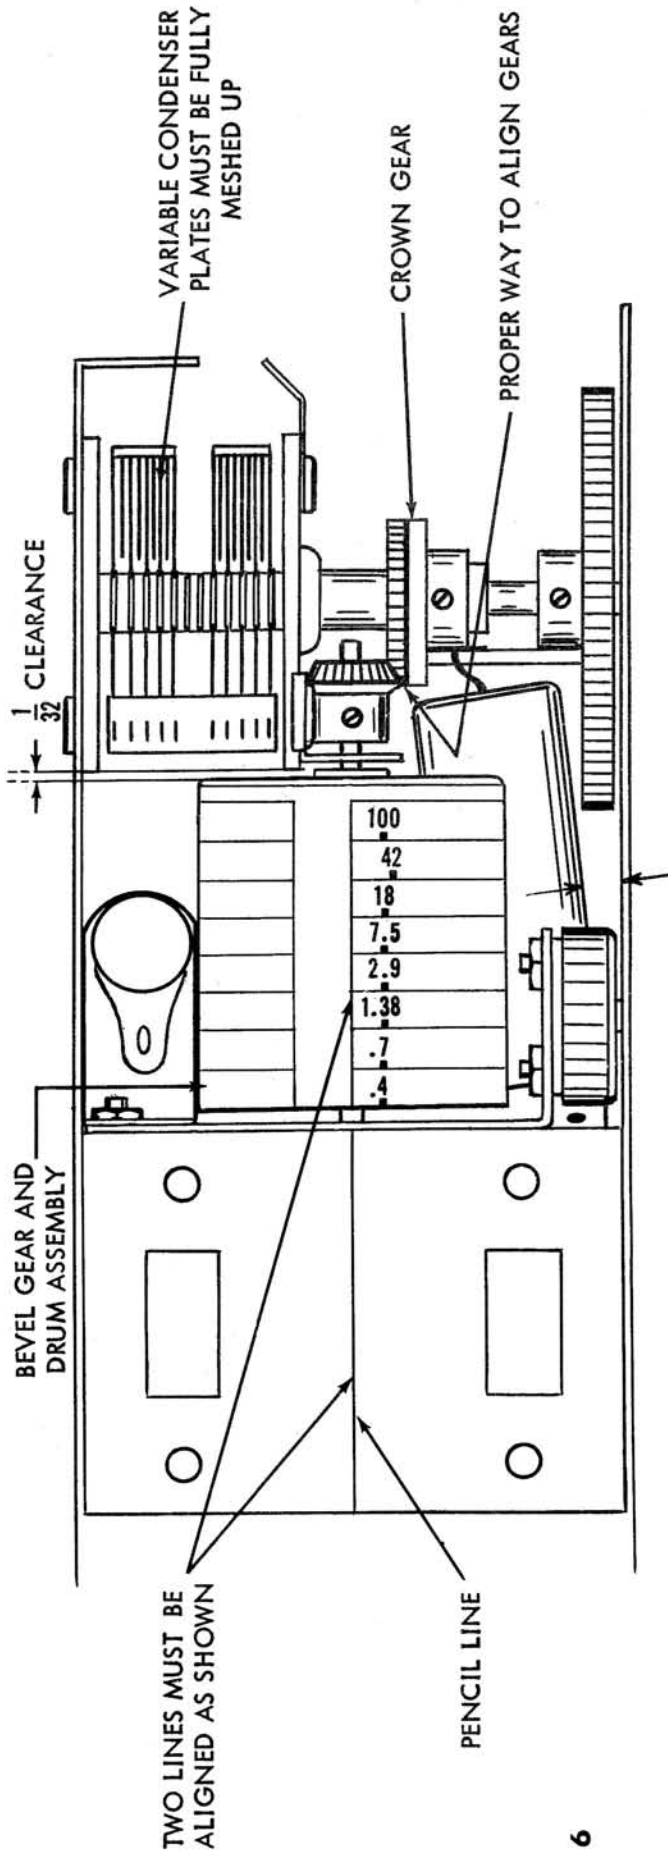
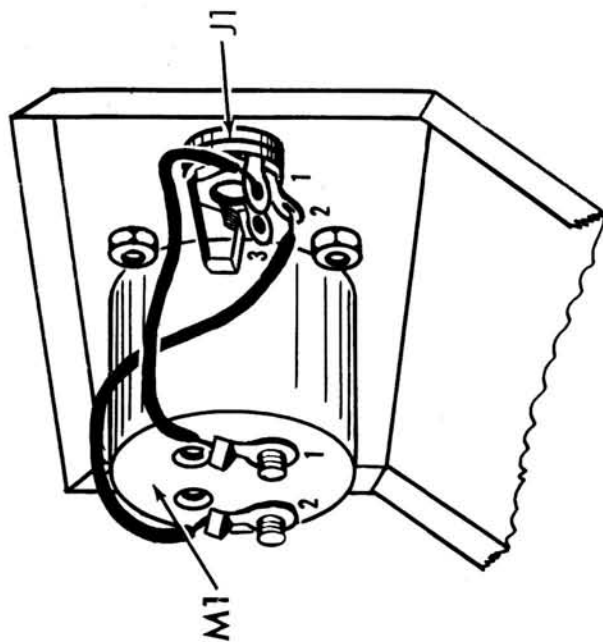

Fig. 6
Fig. 7
- () 1. Fig. 6. $1/8$ " from either edge of the top of the "U" shaped bracket, draw a line perpendicular to the variable capacitor. This is at the center of the bracket.
- () 2. Fig. 6. Loosen completely the two screws holding the "U" bracket to the main chassis. The nuts should be held onto the screw with several threads.
- () 3. Fig. 6. Push a spring over the thinner portion of the center axle inside the drum assembly. Do not force the spring over the thicker portion of the axle.
- () 4. Fig. 6. With the left hand, push the "U" shaped bracket toward the 4 post terminal strip TB1, mounted on the main chassis. With the right hand, push the axle with the spring on the drum assembly, through the hole "R" in the "U" shaped bracket. See fig. 5 for location of the hole. The spring tends to push the drum assembly towards the variable capacitor.
- () 5. Fig. 6. The capacitor plates must be fully meshed (maximum capacity). Push the drum towards the "U" shaped bracket so that the clearance between the frame of the capacitor and the body of the drum is $1/32$ ". See fig. 6. Turn the drum so that the beginning of the scale, nearest the .4 mc marking, coincides with the line drawn in step 1, above.
Slip a crown gear over the $1/4$ " shaft on the variable capacitor. Engage this with the small conical gear, "V", on the drum assembly. Tighten the set screw on the crown gear. Note that the pressure of the conical gear (on the drum) on the crown gear is the force necessary to keep the drum $1/32$ " from the frame of the variable capacitor. When properly assembled, results will appear as shown in figure 6. Drum will rotate freely with $1/32$ " axial play compensated by the spring. This is an example of a spring loaded, right angle gear drive which takes out the backlash.
- () 6. Fig. 6. Slip the black tuning knob over the $1/8$ " shaft on the variable capacitor. Do not tighten the set screw as yet.
- () 4. Fig. 7. Connect a 3 1/4" piece of black wire from J1-2 (S1) to M1-2 (S1). Dress the wire close to the meter body and panel, as shown.
- () 5. Fig. 7. Push the pilot light into the pilot light socket, X11. Place a shield over the pilot light bulb.
- () 6. Fig. 7. Push the 6AF4A tube, V1, into the socket, XV1. The tube is positioned at a slight angle with the chassis, when it fits snugly in its socket.
- () 7. Fig. 7. Unscrew the four screws holding the slide switches, S1 and S2. The panel is mounted to the "U" shaped bracket with these four screws. Slide the black tuning knob, previously mounted on the shaft of the capacitor, so that it fits through the slit marked tuning on the panel. Align the panel so that the inscribed line on the plastic plate, which appears in the center of the trapezoidal cutout, is directly over and parallel to the line used in step 5 referring to figure 6. Tighten the panel to the "U" shaped bracket and the slide switches, using the #4-40 screws just removed from the switches. All controls and both switches should move freely without rubbing or sticking.
- () 8. Fig. 7. Center the black tuning knob in the slit and tighten the screw from the front side of the unit, next to the tube.
- () 9. Fig. 7. Turn tuning knob. Note that it should rotate freely. If it does not, check point of friction. If it hits the side of the tube, bend the tube bracket slightly with a pair of long nose pliers. If it rubs against the electrolytic capacitor, push the capacitor out of the way, so that there is a 1/32" clearance.
- () 10. Fig. 7. Solder the black wire from hole "5" to J1-3 (S1).
- () 11. Fig. 7. Push a 5/16" rubber grommet through the hole in the short side of the cabinet.
- () 12. Fig. 7. Push the end of the line cord with the tinned leads from the outside of the cabinet, through the grommet. Solder one tinned lead to S2-2 (S1) and the second tinned lead to TB1-1 (S2). See Fig. 3.
- () 1. Fig. 7. Mount phone jack J1 as shown in figure 2. Use the lock-washer, flatwasher and hex nut supplied with the jack to secure it to the panel.
- () 2. Fig. 7. If the meter you have has four mounting studs screws already mounted on the meter movement, push the meter through the holes and mount it with the four #4-40 x 3/16 hex nut. If your meter is of the type that does not have the four screws already mounted to its frame, push 4-40 x 5/16 screws through the four holes on the front of the meter. Secure the meter to the panel using four #4-40 x 3/16 hex nuts. Orient as shown. Note the front panel so that meter is mounted properly up and down.
- () 3. Fig. 7. Connect a 2 1/2" piece of red wire from J1-1 (S1) to M1-1 (S1). Dress the wire close to the meter body and panel, as shown.